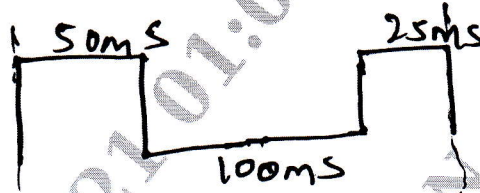

Fig Q7(b)
- b. Generate a waveform given in Fig Q7(b), if XTAL = 11.0592MHz P1.3 use timer 0 in mode 1.